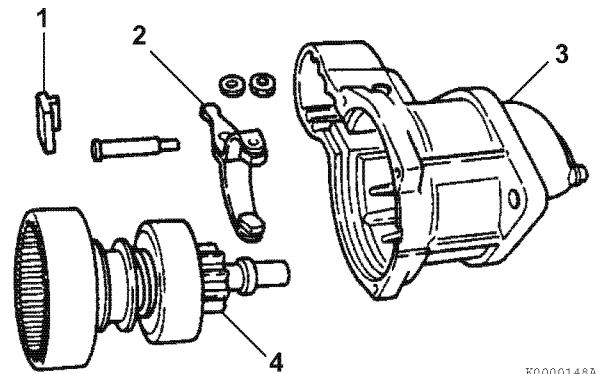

Figure 11-30
4. Apply a small amount of high temperature lithium grease (obtain locally) to the contact surfaces of the shift lever. Reassemble the shift lever (2, **Figure 11-30**), spacer (if equipped) (1, **Figure 11-30**), and pin.
5. Reinstall the pinion shaft assembly (4, **Figure 11-30**) in the pinion housing (3, **Figure 11-30**). Be sure the shift lever properly engages the pinion.